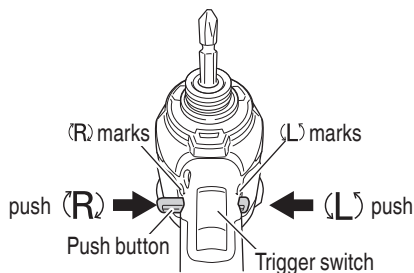

Fig. 10
The L-side of the push button is pushed to turn the bit counterclockwise (See Fig. 10). (The (L) and (R) marks are provided on the body.)